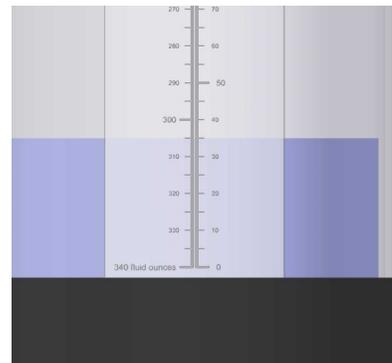

Figure 2
10. As soon as one minute is up, position valve on top of mix tank to MIX TANK. Read the level on the side of the calibration tube (see Figure 2, below). This number should equal the number of ounces needed to flow through the pump in one minute. If the ounces needed per minute have not been met, re-adjust the pump speed up or down accordingly and repeat steps 9 and 10 until the liquid flow rate has been matched.